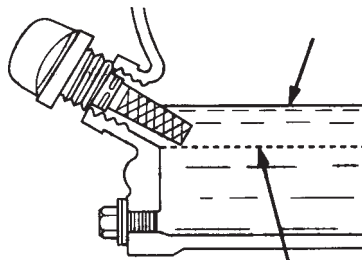

Figure 7. Engine Oil Dipstick (Oil Level)
- If the oil level is low (Figure 7), fill to the edge of the oil filler hole with the recommended oil type (Table 4).